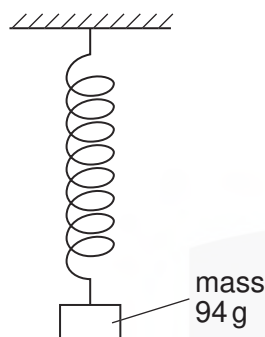
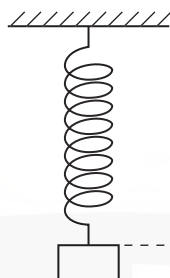
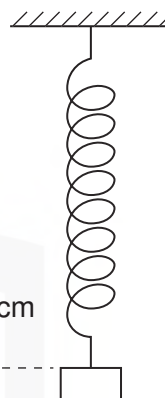

Fig. 5.1
Fig. 5.2
Fig. 5.3
- 4 A spring hangs vertically from a fixed point and a mass of 94 g is suspended from the spring, stretching the spring as shown in Fig. 5.1.
The mass is raised vertically so that the length of the spring is its unextended length. This is illustrated in Fig. 5.2.
The mass is then released. The mass moves through a vertical distance of 2.6 cm before temporarily coming to rest. This position is illustrated in Fig. 5.3.
- (a) State which diagram, Fig. 5.1, Fig. 5.2 or Fig. 5.3, illustrates the position of the mass such that
- (b) Briefly describe the variation of the kinetic energy of the mass as the mass falls from its highest position (Fig. 5.2) to its lowest position (Fig. 5.3).
For the mass moving between the positions shown in Fig. 5.2 and Fig. 5.3,